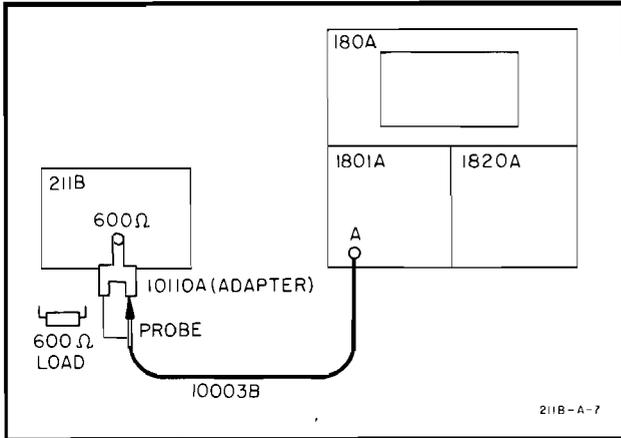

Figure 5-4. 600-Ohm Output Test Setup
- b. Connect the equipment as shown in Figure 5-4.